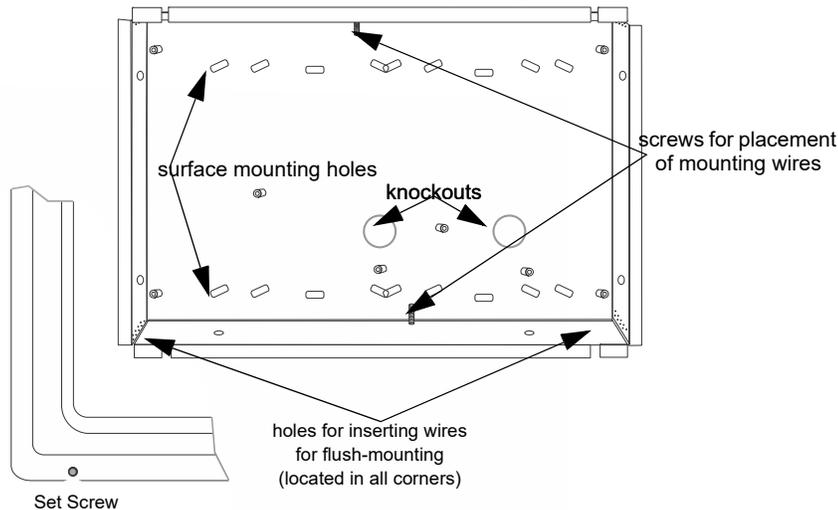

Figure 4.18 Annunciator Backbox and Bezel Details
The 5860 comes from the factory fully assembled. You must disassemble it for mounting. To disassemble the annunciator, use a 5/64 hex wrench to remove the set screws, located on the bottom of the annunciator bezel. (See Figure 4.18 for location of the set screws.)
1. Drill holes in the surface to match the screw holes on the backbox. Refer to Figure 4.18 for locations.
5. Replace the electronic assembly in the backbox. Place the bezel over the backbox and tighten the set screws on the bezel. Refer to Figure 4.18 for location of set screws.